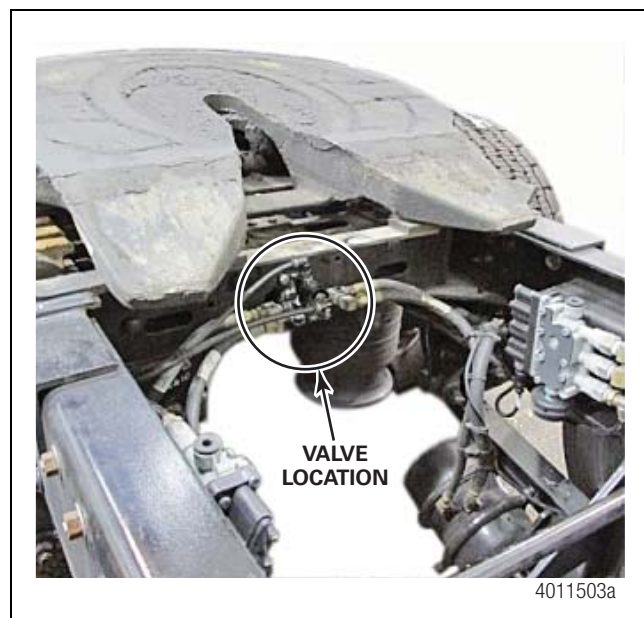

Figure 1
2. Locate the park brake quick release valve on the vehicle. The location may differ based on the make and model of the vehicle. Typically, it is located on the cross member behind the fifth wheel. Figure 1.